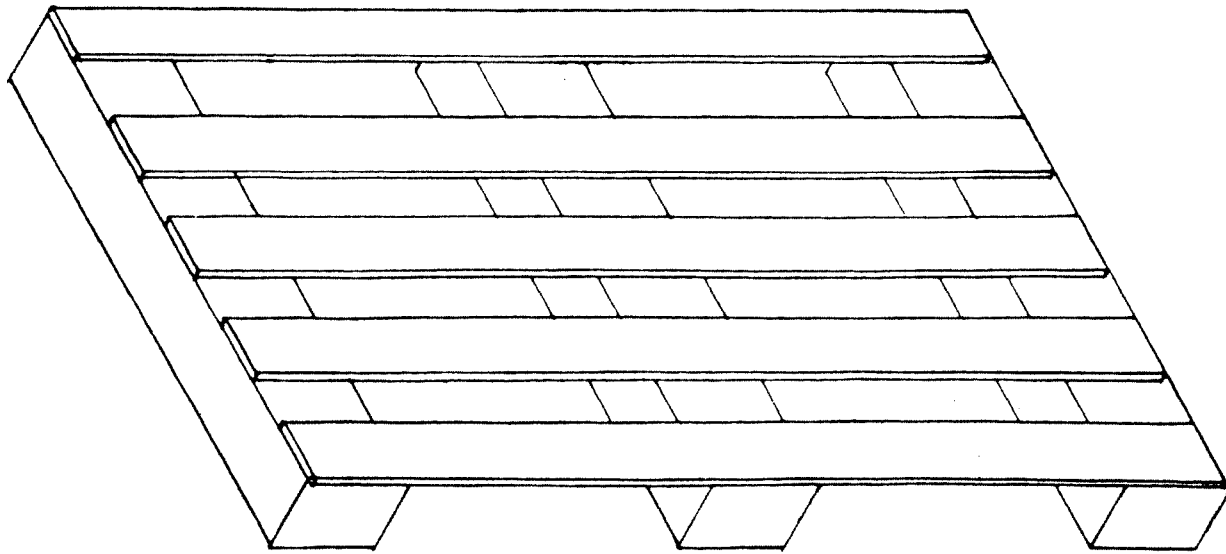

Fig. 23 WOODEN PLATFORM
- 2) The boxes can be stacked one above the other up to a maximum of FOUR Nos. with a wooden platform as shown in Fig. 23 (WOODEN PLATFORM). We do not recommend usage of Tarpaulin for the floor.